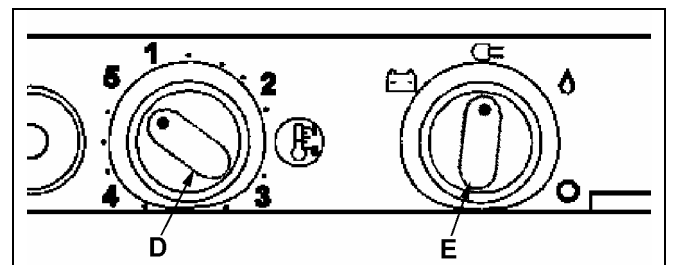

Figure 9-4 – Refrigerator Controls
- Turn the selector switch (E) to the 110 volt electric position. See figure 9-4.
- Turn the thermostat (D) to the desired temperature setting.